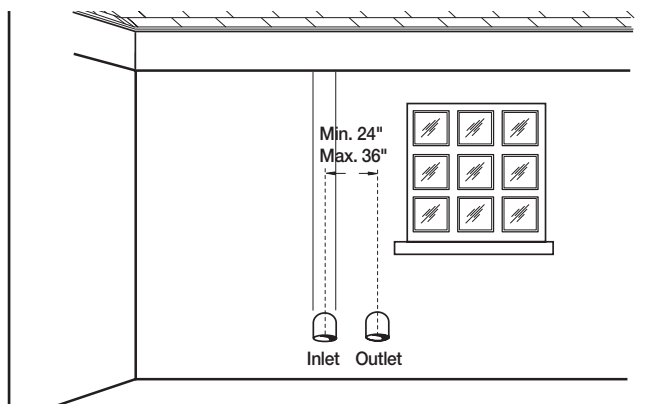

Figure 5
1. Cut two holes for the pipe to pass through. The hole diameter should be 2.5" (6.4 cm) for 2" pipe, 3.5" (8.9 cm) for 3" pipe, and 6.5" (16.5 cm) for 6" pipe. Vent terminals must maintain a horizontal distance apart in the range of 24" to 36" (61 cm to 91 cm). Refer to Figure 5 for additional information.